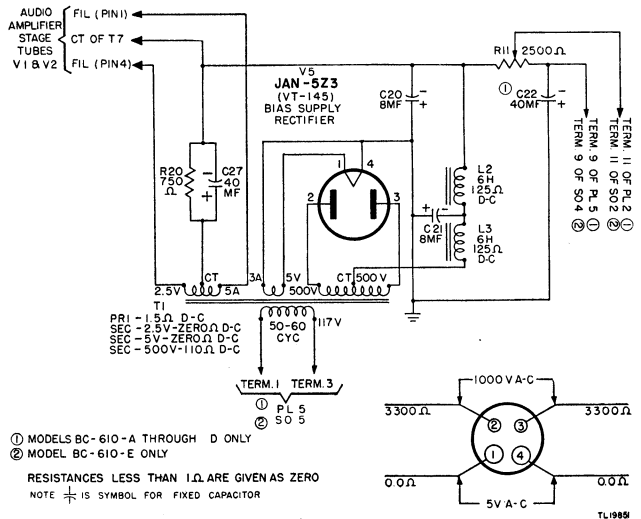

Figure 35. Radio Transmitter BC-610-(*), modulator bias power supply stage, schematic wiring diagram.
32. Modulator Bias Power Supply (fig. 35)